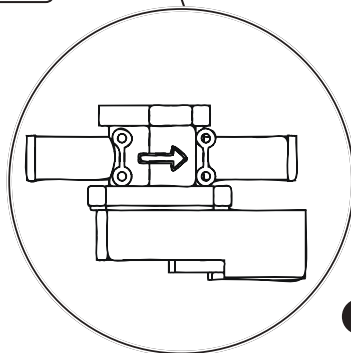

Figure 1
3. Connect the lower hose to the water pump fitting toward the front of the engine and install the heater control valve in line (See Photos 1 and 2, below). **NOTE: The heater control valve is directional refer to Figure 1, below, for correct installation.**